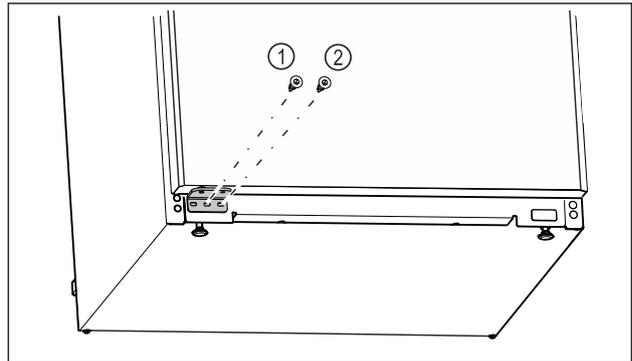

Fig. 26
- ▶ Tighten the middle screw of the swap bearing block Fig. 26 (1) using a Torx 20 screwdriver.
- ▶ Tighten the inner screw of the swap bearing block Fig. 26 (2) using a Torx 20 screwdriver.